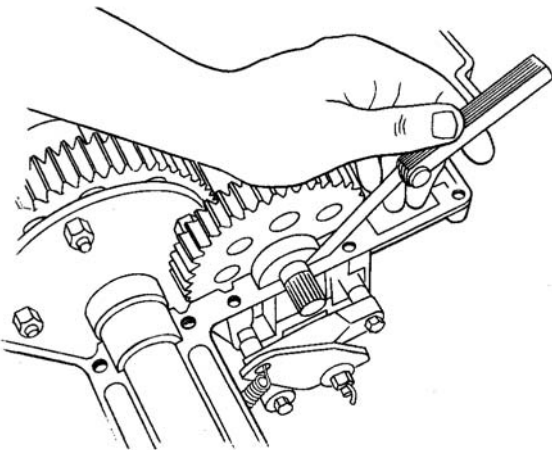

Figure 5-54. Checking for Shim Requirements
2. Check with a feeler gauge for proper shim requirements. Allow .010 end float and assure correct alignment of gears. See Figure 5-54.